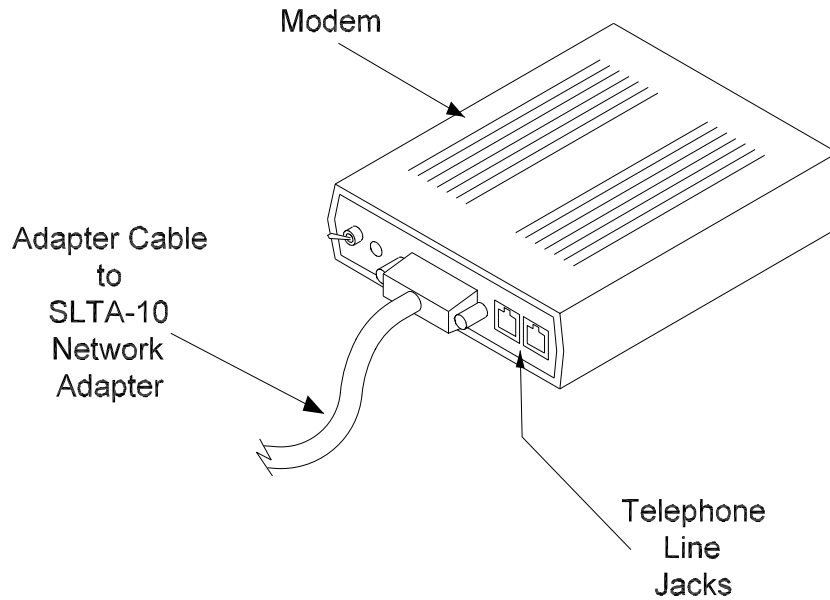

Figure 6.3 Modem connections
Step 2: Connect the modem and SLTA-10 network adapter using the Red Jacket SLTA-10 to modem cable.(See Parts List) See *figure 6.3*.